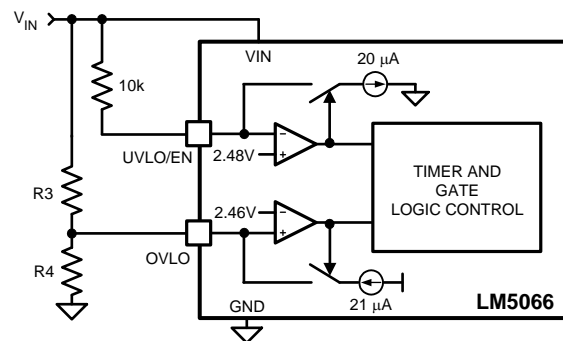

Figure 12. UVLO = POREN
**Option C:** The minimum UVLO level is obtained by connecting the UVLO/EN pin to VIN as shown in Figure 12. Q1 is switched on when the VIN voltage reaches the POREN threshold (≈8.6V). The OVLO thresholds are set using R3, R4. Their values are calculated using the procedure in **Option B**.